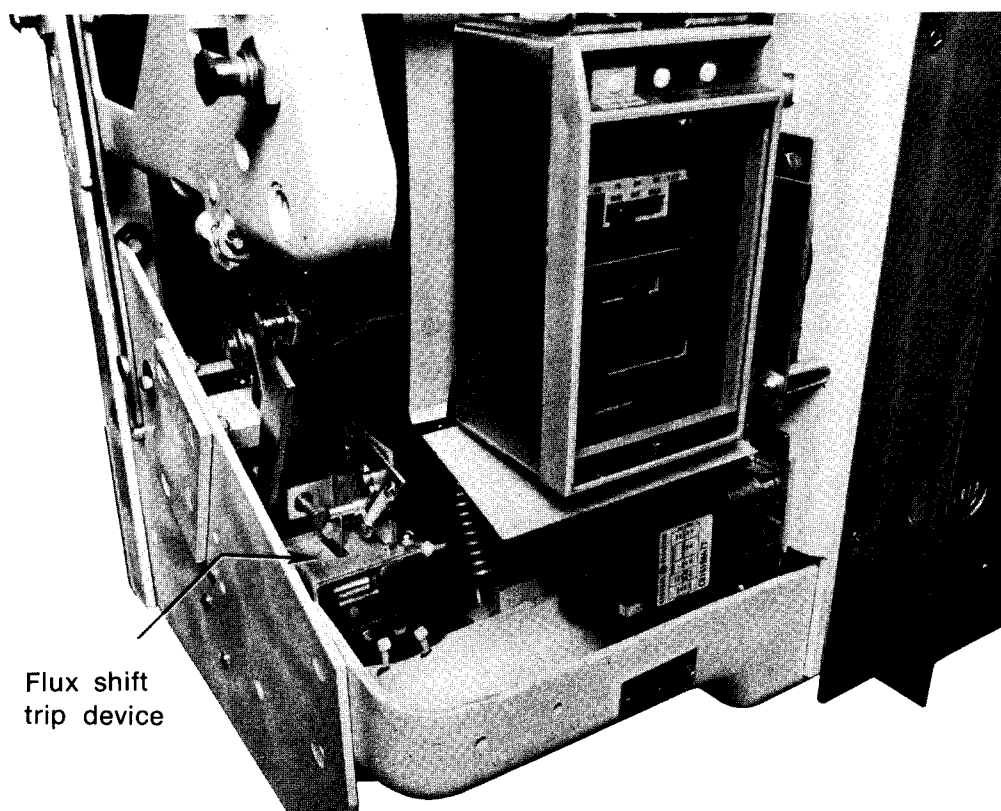

Fig. 8. AK-5A-75 (front view)
**Flux Shift Trip Device**—a low-energy, electromagnetic device which, upon receipt of a trip signal from the programmer unit, trips the breaker by actuating the trip shaft. See Fig. 8.
The mounting arrangement of this component is illustrated in Figures 8, 9 and 10. An electromagnetic actuator mounted to the left side of the front frame is coupled to the breaker's trip shaft via a trip rod driven by the actuator arm. The actuator is a solenoid whose armature is spring-loaded and held in its normal (reset) position by a permanent magnet. In this state the spring is in tension.